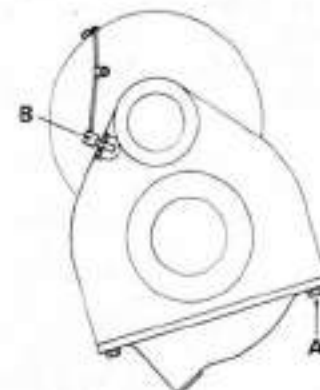

FIGURE 3/12. VIEW OF LEFT-HAND REDUCTION SHOWING BREATHER AND PIPE FITTED
3. Remove the  $\frac{1}{8}$  in BSP plug on top of the reduction housing and fit in its place the small breather unit as supplied with the conversion kit, passing it up the inner face of the mud-guard. Remove the standard breather bolt A, Fig. 3/12 from the reduction cover and fit the  $\frac{3}{8}$  in UNC bolt and plain washer in its place. (Failure to replace the standard breather with the new unit in this alternative position will result in oil leakage at this point.)